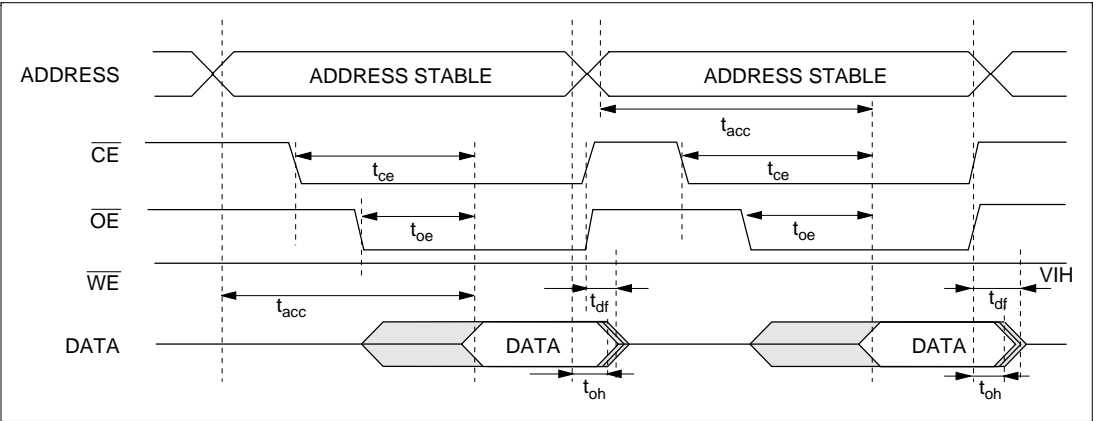

Figure 6.20 Timing Waveforms for $\overline{\text{CE}}$, $\overline{\text{OE}}$ Clocked Read
(2) Notes on Use of Auto-Program Mode
- Memory address transfer is performed in the second cycle (figure 6.20). Do not perform transfer after the second cycle.